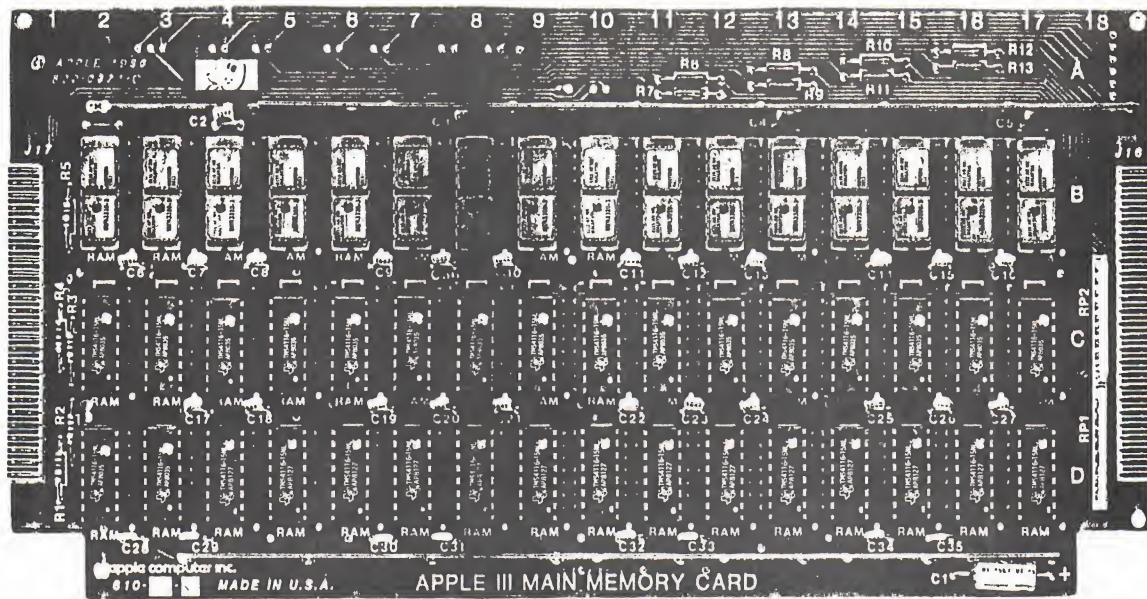

FIGURE 3 — 12V BOARD
4. The test will then check the RAM and report any failures. The 12V test gives RAM locations according to a grid of letters and numbers printed along the side and top of the 12V board (rows B, C, D; columns 2 through 17: see Figure 3).